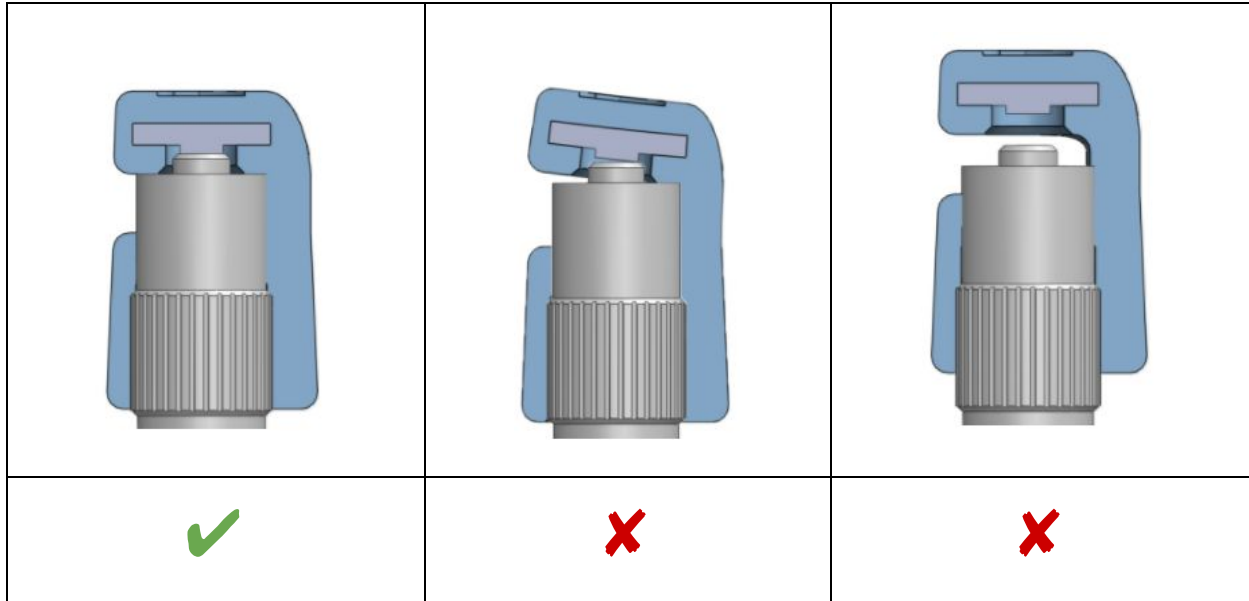

Figure 1: Proper positioning (left) and improper positioning (middle, right) of GloShield™ for Storz® and Stryker® fiber-optic light cables -- REF 16-2001
4. Ensure GloShield™ is positioned flush with the cable adapter such that the tip of the cable is covered (Figures 1 & 2).
9. Upon scope disconnection, verify light cable is covered (Figures 1 & 2).